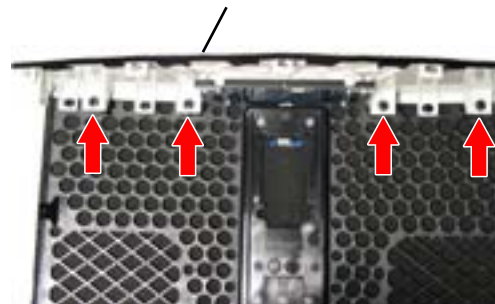

Figure 23. Top Cap
4.2 Align the top cap to the grille's alignment features. Secure the top cap to the grille with four screws shown in Figure 23.
4.3 To avoid buzzes, install the top cap flock on the edge of the top cap opposite the grille. Make sure the flock does not extend above the edge of the top cap. The flock should not be visible when the top cap and grille are installed on the enclosure. Top cap flock is item 2 in the Main Assembly part list. Figure 23.